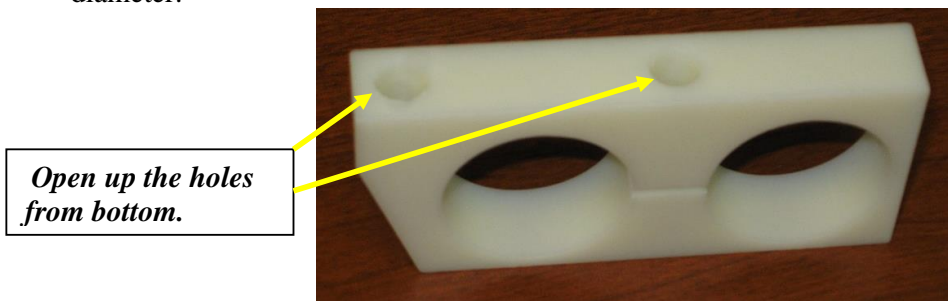

Figure 2
- 1.2. Modify the Dual Pump Bracket (40002-2037-01) by opening up the mounting holes on the bottom, as shown in Figure 2, with a tapered ream. The finished hole size is 1/4" diameter.